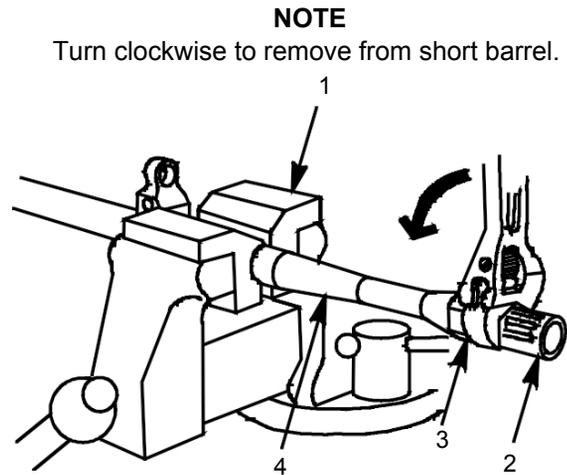

Figure 2. Current Style Barrel in Vise.
1. Remove gas collar and gas regulator from old style barrel before putting barrel assembly (Figure 2, Item 4) in vise which must have protective barrel jaws (Figure 2, Item 1).
2. Use an adjustable wrench to remove compensator (Figure 2, Item 2) from both old and current version barrel. Turn counterclockwise (CCW) to remove compensator from long barrels, turn clockwise (CW) to remove compensator from short barrels.
3. Remove compensator washer (Figure 2, Item 3) from new and old style barrel and discard.